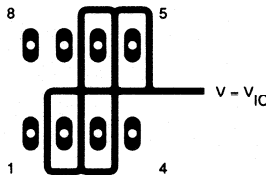

FIGURE 4. ISOLATION METAL AROUND DEVICE INPUTS (JG AND P DUAL-IN-LINE PACKAGE)
- 1 Isolate the device from other potential leakage sources. Use a grounded shield around and between the device inputs (see Figure 4). Leakages that would otherwise flow to the inputs will be shunted away.